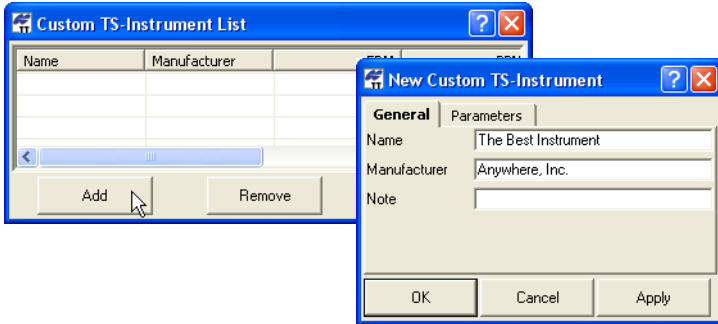

Figure 5-79. New Custom TS Instrument
- 3. Click **Add** (Figure 5-79 on page 5-51). To remove an instrument, click on the TS instrument’s row and click **Remove**.
- On the *General* tab, edit the *Name*, *Manufacturer*, and *Note* fields (Figure 5-79). Then click **Apply** to save the information.